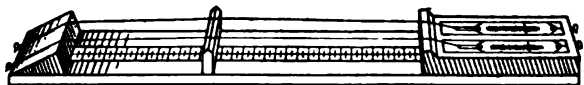

FIG. 335.—A sonometer.
**343. The Laws of Vibrating Strings.**—The relations between the vibration rate, the length, the tension and the diameter of vibrating strings have been carefully studied with an instrument called a *sonometer* (Fig. 335). By